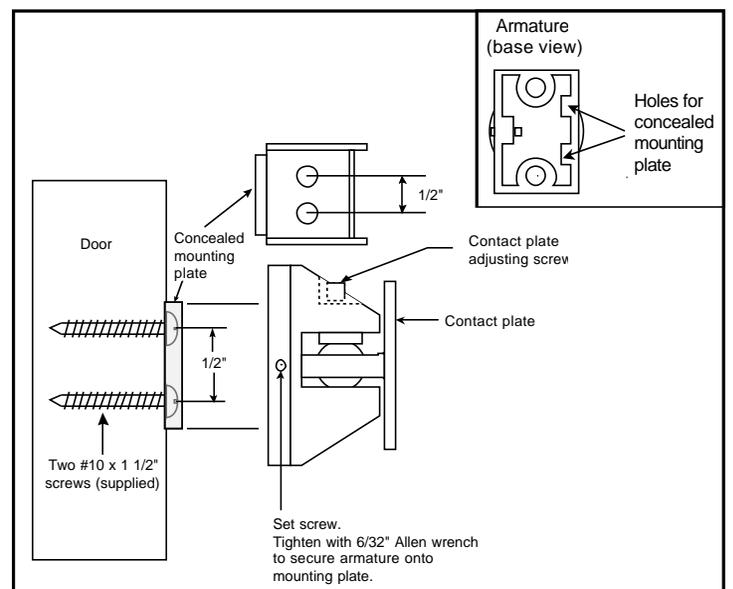

Figure 7. Surface Concealed Mounting
- Surface concealed mounting (Figure 7).** Measure two points for 1/8" holes drilled 1/2" on center, equidistant from each marked point. Center punch the holes and drill 1/8" diameter x 1-1/4" deep. Install the concealed mounting plate using two #10 x 1-1/2" screws provided.